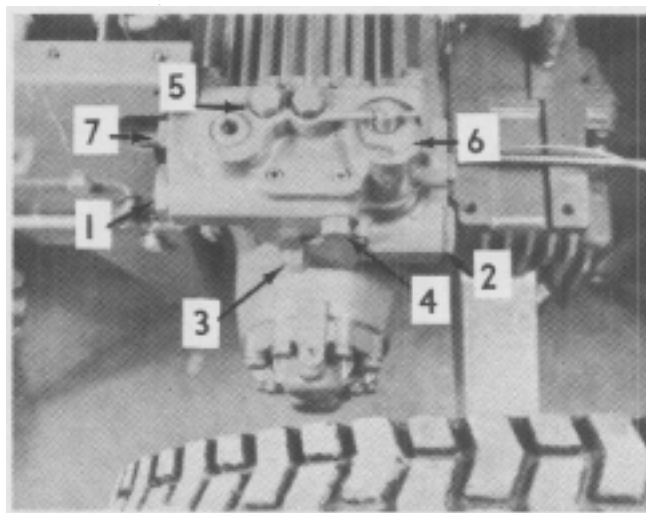

FIG. 90.
Remove the fender and tool box assembly to expose the center section of the Hydrogear as shown in Fig. 90. Thoroughly clean the center section of all dirt, clippings, etc. with a solvent that is not harmful to paint. Remove the drain plug at the bottom of the transaxle case and drain the fluid. Remove the oil filter for replacement.
Acceleration Relief Valves: Remove the forward dampening valve (item 2, Fig. 90) with a $1\frac{3}{8}$ " wrench on the hex head. Occasionally the acceleration valve piston and sleeve assembly (2 & 3, Fig. 91) remains on the dampening valve when removed. When this happens, separate them for inspection and cleaning.
Repeat this operation on the reverse acceleration valve assembly (1, Fig. 90).
Remove the reverse check valve "O" ring plug (4, Fig. 90) with a wrench on the $\frac{5}{8}$ " hex head. Remove the spring (9, Fig. 91) and valve (10, Fig. 91) using a magnet or long nose pliers if needed. Check the spring for distortion. Replace it if damaged. Remove and discard the "O" ring from the plug.
Clean the parts in solvent and coat them with type "A" automatic transmission fluid. Install a new "O" ring on the plug (4, Fig. 90) using care not to damage the ring on the screw threads. Slip the spring over the shoulder of the valve and install the assembly into its bore in the center section. Install the hex head "O" ring plug and tighten securely.
Repeat this operation on the forward check valve assembly (3, Fig. 90).
Remove the $\frac{5}{8}$ " hex head "O" ring plug (5, Fig. 90). Remove the spring (11, Fig. 91) and valve (12, Fig. 91) using a magnet to withdraw them from the bore.
Clean the parts with solvent and coat them with type "A" automatic transmission fluid. Install a new "O" ring on the plug (5, Fig. 90) using care not to damage it on the screw threads. Install the spring in the valve and insert the assembly, valve first, into its bore on top of the center section. Install the hex head "O" ring plug and tighten securely.
Back out the 1" hex shoulder plug (6, Fig. 90). Pull the valve assembly (14, Fig. 91) out of the bore. The force required will depend on the radial press of the sealing rings on the barrel of the valve.
Remove the $\frac{5}{8}$ " hex head "O" ring plug (7, Fig. 90). Remove the spring (16, Fig. 91) and valve (17, Fig. 91) using a magnet to withdraw them from the bore. Remove and discard the "O" ring from the plug. Check the spring for distortion. Replace if damaged.
Clean the parts with solvent and coat them with type "A" automatic transmission fluid. Install a new "O" ring on the plug (7, Fig. 90) using care not to damage it on the screw threads. Insert the spring in the valve and install the assembly, valve first, into its bore on the front of the center section. Install the hex head "O" ring plug and tighten securely.